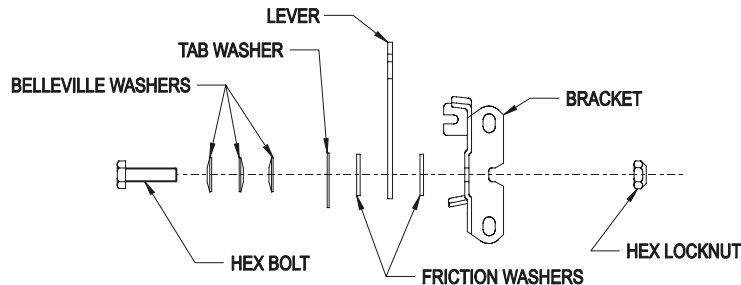

FIGURE 15
- b) Tension in throttle lever can be adjusted by adjusting the tightness of the lever pivot bolt, which is located under the console (See Figure 15).